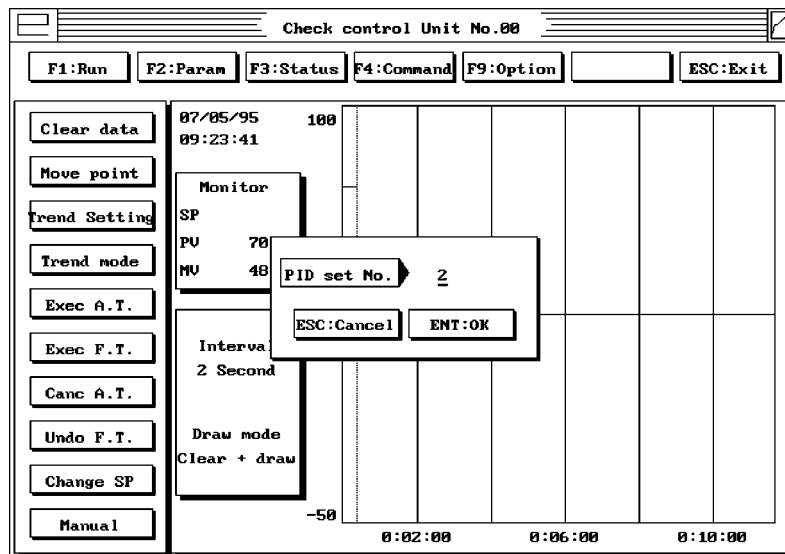

Figure 20
6. A new pop-up window will appear (Figure 20). Select which PID bank you wish to autotune.